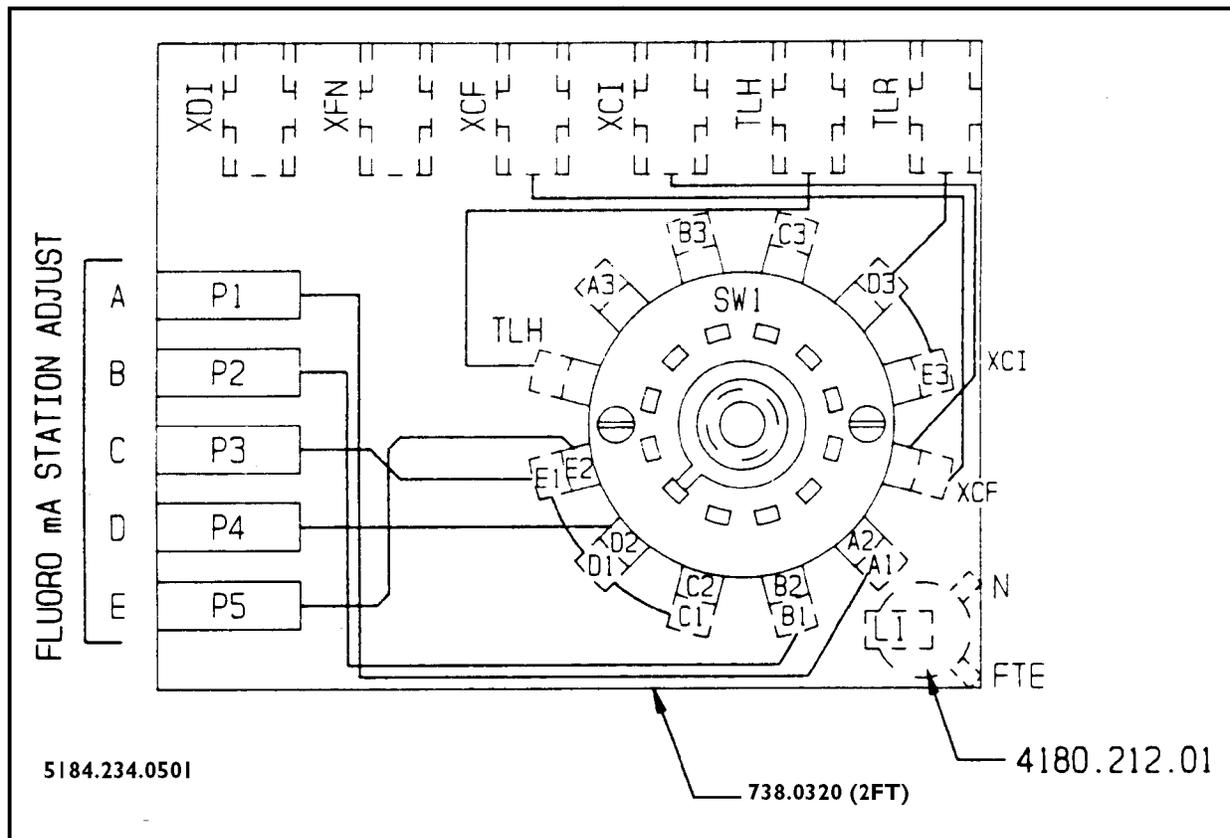

Figure 3-77
**NOTE:** Adjustments in this section are performed on the Fluoro mA Control PCB, 5184.234.0501. (See Figure 3-77.)